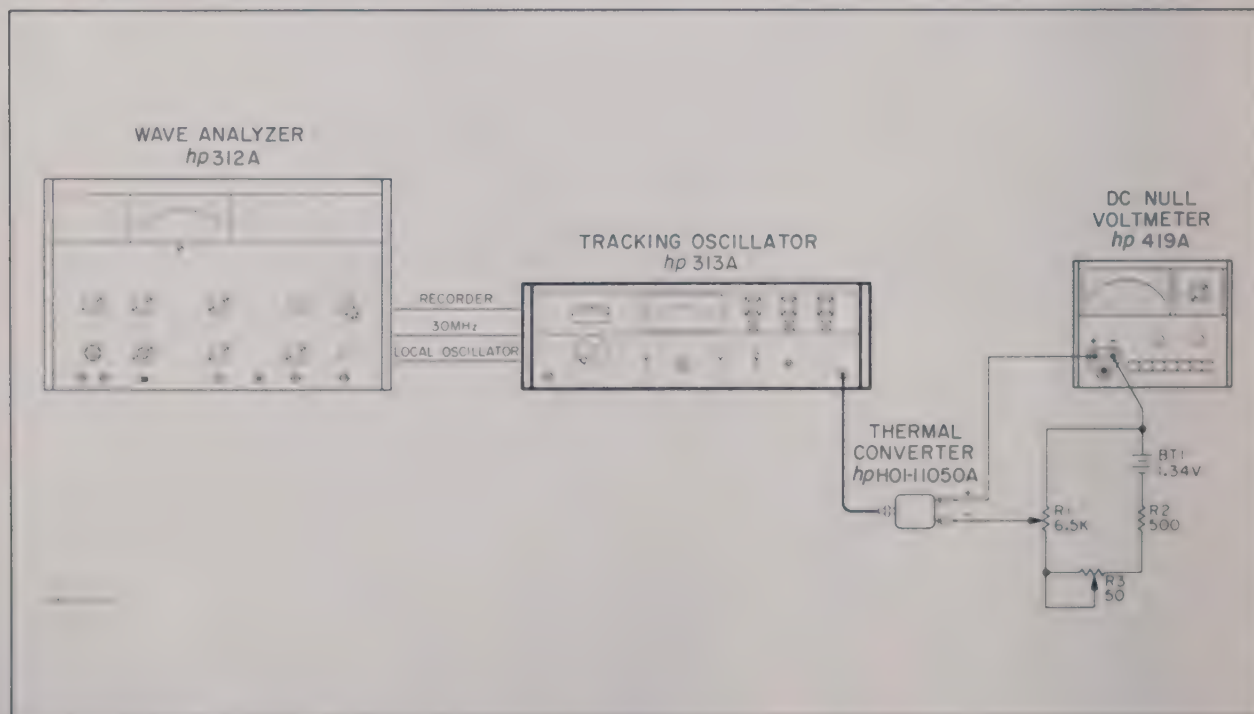

Figure 5-2. Output Frequency Response Test Setup
- a. Connect the 313A, 312A, Thermal Converter, Bucking Supply and 419A DC Null Voltmeter as shown in Figure 5-2.